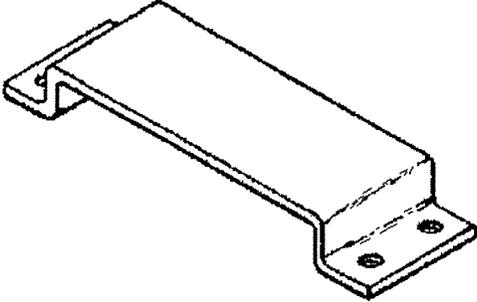

Figure 5-13. Multi-Purpose Bracket
- m. The multi-purpose bracket (Figure 5-13) is used to hold magnifying glasses etc., and with modification, landing gear wrenches, oil sample bottles, etc. When mounted vertically it supports drill sets, file sets, sharpening stones, etc.